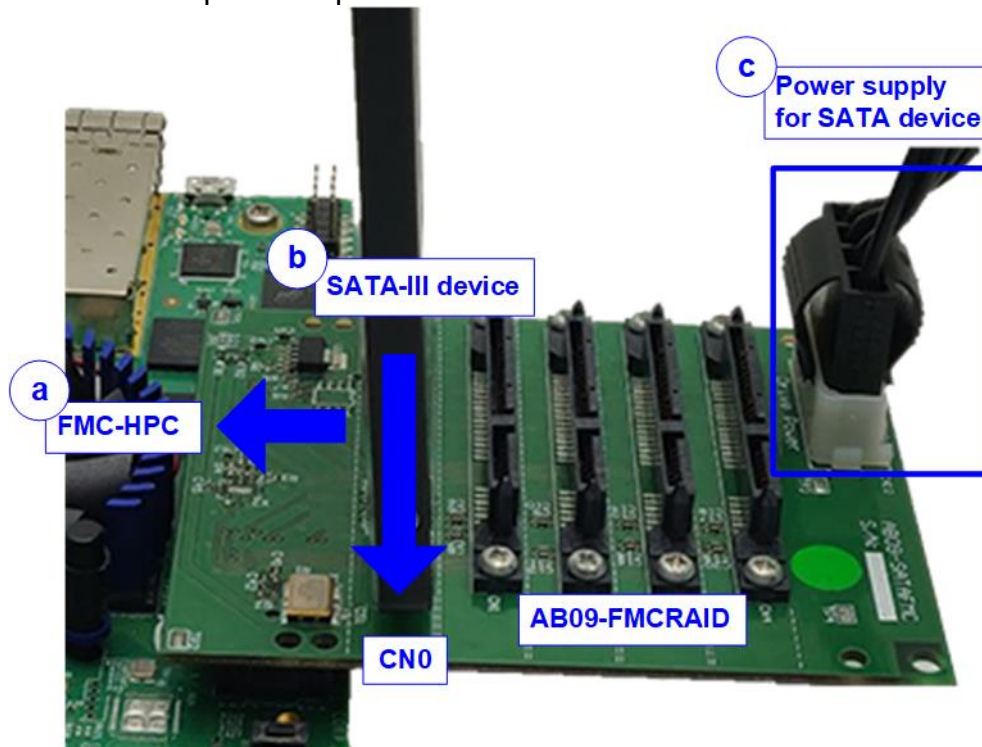

Figure 3-2 AB09-FMCRAID connection
- 4) Connect SATA-III device to AB09 and then connect AB09 to FPGA, as shown in Figure 3-2.